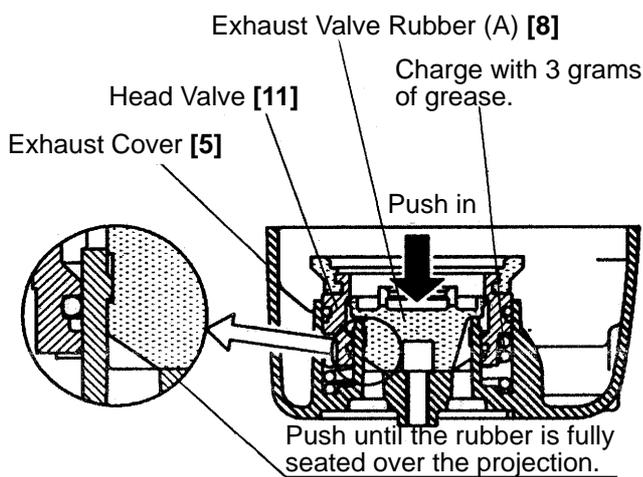

Fig. 12
- As shown in Fig. 12, firmly push the Exhaust Valve Rubber (A) [8] until it is fully seated over the projection of the Exhaust Cover [5].